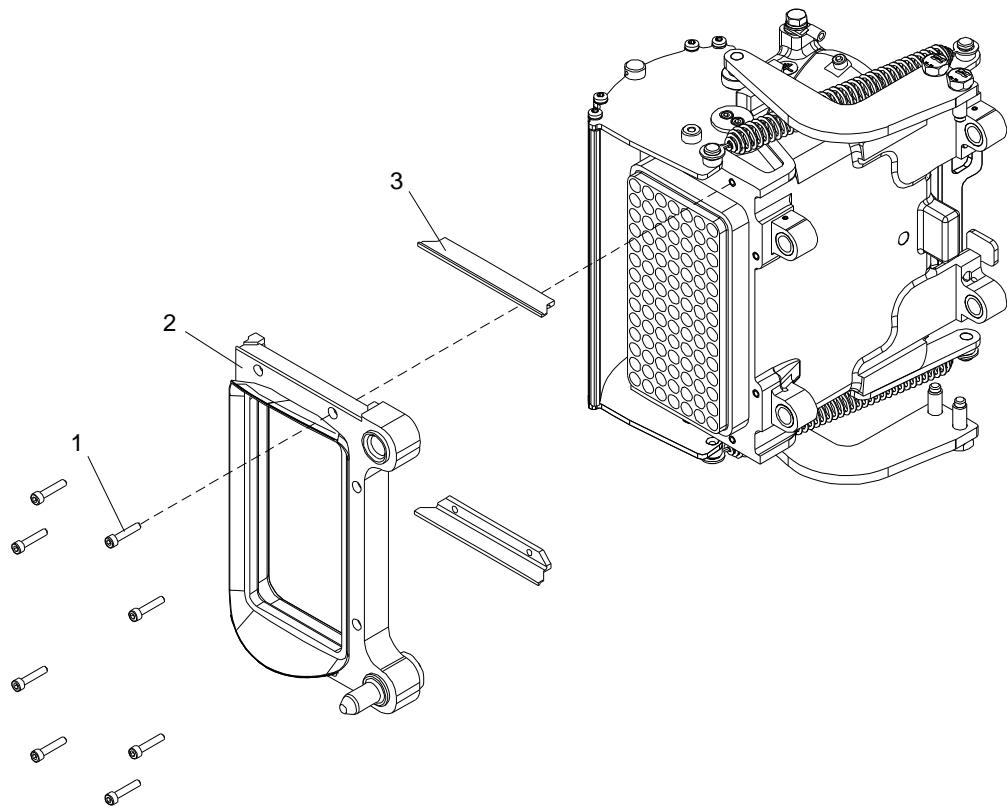

Figure 7-15: Replacement of Sealing Strip
3. Remove the frame (2) and sealing strips (3) by removing screws (1). See Figure 7-15.
2. Fit the sealing strips (3) and frame (2) and mount screws (1). See Figure 7-15.